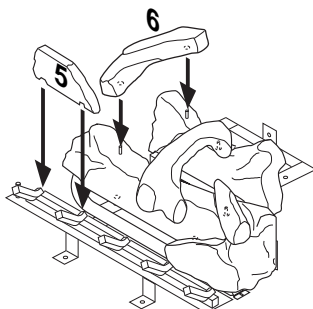

Figure 44 - Installing Logs No. 5 and No. 6
5. Place log #5 (base log) onto the front left part of the grate making sure the notches fit over the prongs of the grate). See Figure 44, page 25.
6. Place log #6 (left log) onto two pins on the left side of back and front log. See Figure 44, page 25.